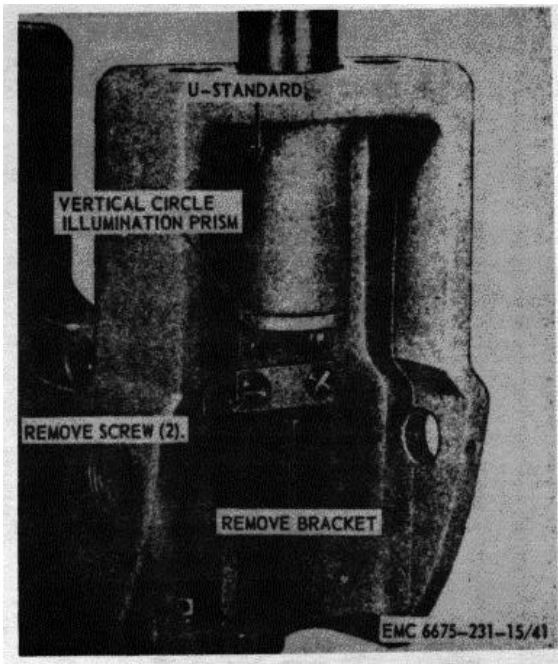

Figure 43. Vertical circle illumination prism, removal and installation.
- (1) Remove the collimation level and lever assembly (par. 93).
- (2) Remove the collimation slow-motion screw (par. 108).
- (3) Refer to figure 43 and remove the vertical circle illumination prism.
- (1) Refer to figure 43 and install the vertical circle illumination prism assembly.
- (2) Install the collimation slow-motion screw (par. 108).
- (3) Refer to paragraph 93 and install the collimation level and lever assembly.